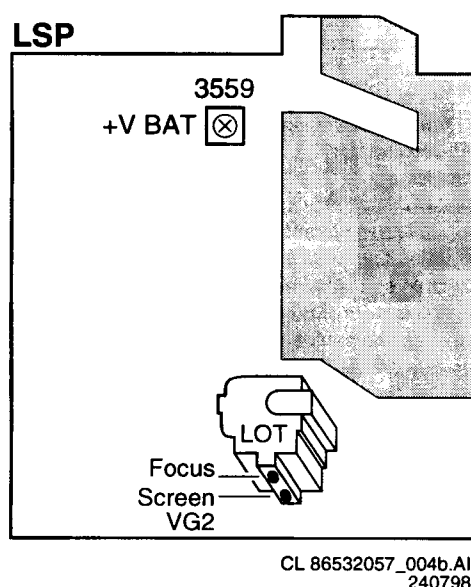

Figure 8-1
Connect a voltmeter across C2569 (diagram A1, +VBAT). Switch on the set. Using potentiometer R3559 (diagram A1) adjust the VBAT supply voltage to $+141\text{V} \pm 0\text{V5}$. (see fig. 8.1)
- Adjust the VG2 potentiometer (fig. 8.1, lower knob on the LOT) so that the measuring pulse with the highest noted level is on 160V level.